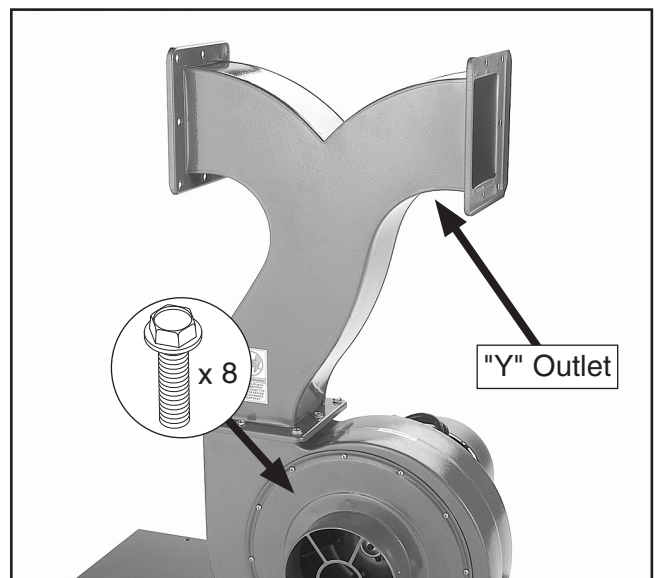

Figure 11. Outlet connector installed.
5. Secure the metal "Y" outlet to the impeller outlet with (8) $\frac{5}{16}$ "-18 x $\frac{1}{2}$ " flange bolts, as shown in **Figure 11**.